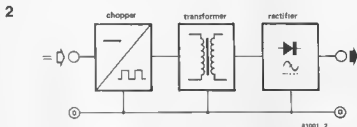

Figure 2. DC to DC conversion by stepping up the chopped signal via a transformer prior to rectification and smoothing.
If the fuse operates at a fairly high minimum current rating, a corresponding power zener diode will cost quite a bit of money. A more economical solution is to control the fuse via a thyristor, as shown in figure 2. As soon as the supply voltage reaches the critical level, the zener diode in the gate of the thyristor will conduct, the thyristor will switch on and blow the fuse. Resistor R at the thyristor gate limits the gate current and also the zener current through the diode.
2. The second type of converter also uses the chopping method, but this time the AC waveform is fed to a transformer before being rectified and smoothed (see figure 2). By using a transformer the voltage can be stepped up (or down) to virtually any desired level, however, the higher the voltage, the less current available.